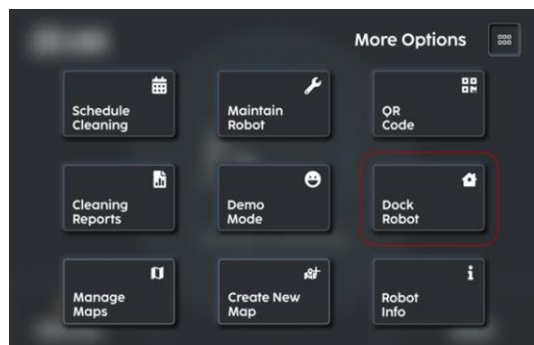

FIGURE 12-6
2. Select 'Dock Robot' (Fig. 12-6).
3. On the touch screen select 'Dock Robot' (Fig. 12-6).